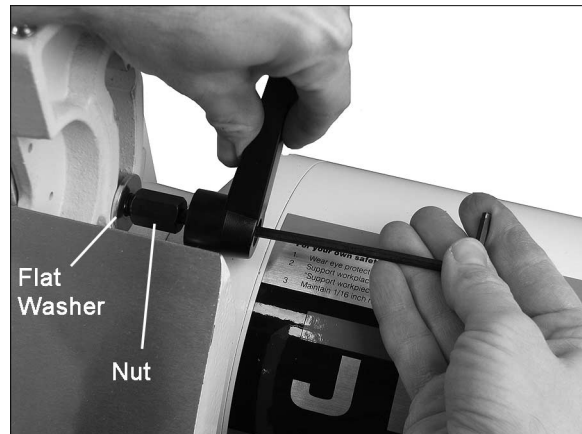

Figure 15
3. Place the remaining M10 flat washer onto the stud (Figure 15).
4. Thread the nut of the table lock handle (Figure 15) onto the stud. To do this quickly, pull out on the handle, while tightening the nut with a 4mm hex wrench. When the nut is fully tightened onto the stud, release the handle, making sure it seats itself back onto the nut.